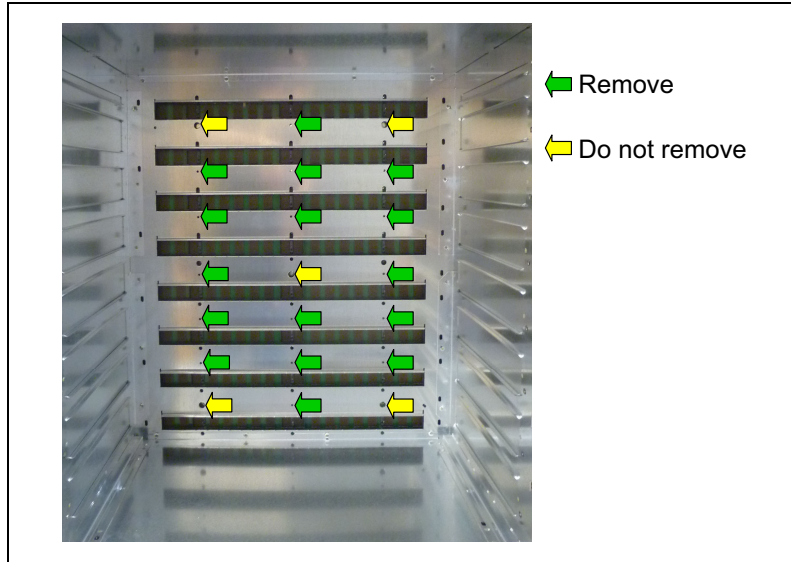

Figure 4-19 Midplane chassis screw location for removal (back)
- a. Remove the 16 M4 screws that secure the front of the chassis with a 5.5 mm driver. See Figure 4-19.
10. Remove the 16 M4 screws that secure the chassis with a 5.5 mm driver. See the green arrows in Figure 4-19 on page 85.